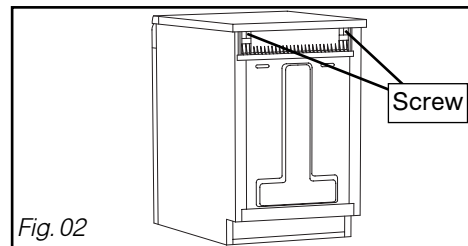

Fig. 02
- Remove the top of the appliance by unscrewing the two screws under the edge of the top (Fig. 02).